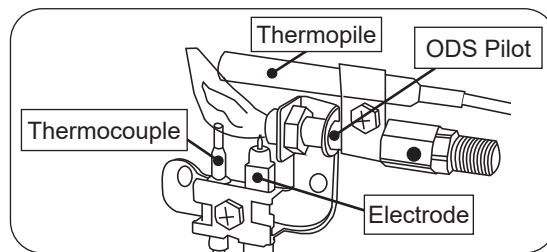

Fig. 24-3 ODS Pilot assembly detail
3. Locate the pilot assembly on the burner system (see Fig. 24-3).